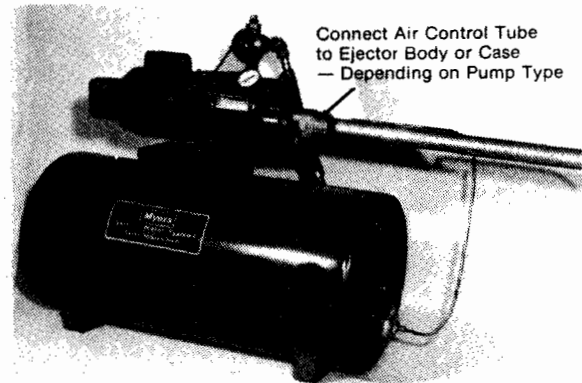

Figure 17
3. Always install air control in position shown and connect to pump in accordance with instructions given under installation instructions HCM-HC. (See Fig. 17).